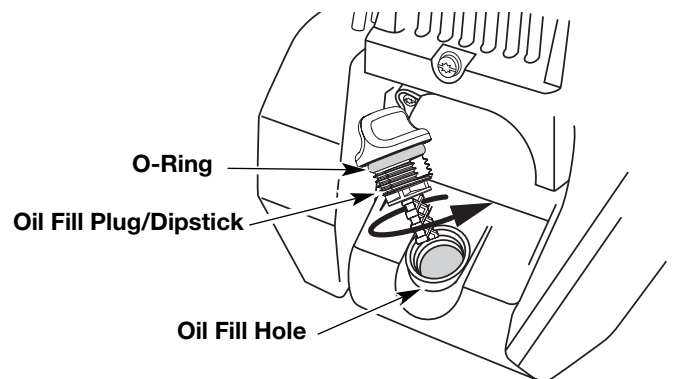

Fig. 58
6. If the level is low, add a small amount of oil to the oil fill hole and recheck (Fig. 58). Repeat this procedure until the oil level reaches the top of the dipstick.
**NOTE:** Make sure the O-ring is in place on the oil fill plug/dipstick when checking and changing the oil (Fig. 58).